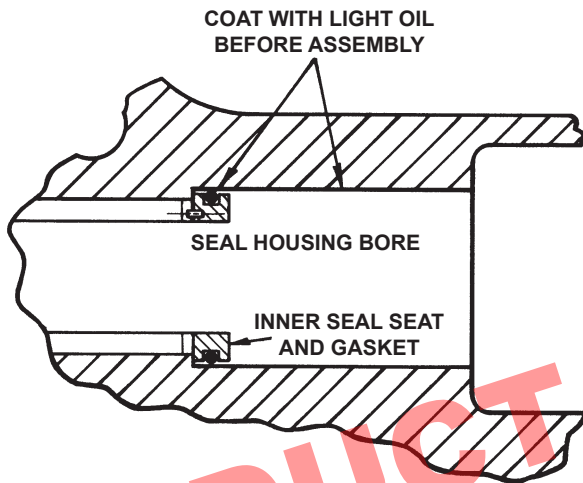

FIGURE 12
3. Coat the outside of the inner seal seat and O-ring gasket and also the inside diameter of the seal housing bore with light Refrigeration Oil (not grease), see figure 12. Press the inner seal seat with O-ring gasket into place in the seal housing bore with your fingers or by putting a piece of cardboard over the face of the seal seat and pressing with a block of wood or squared off piece of pipe. Remove the cardboard. Figure 13 shows how the inner seal seat pin fits into either of the slots in the end of the bracket bushing. Be sure the pin engages one of these slots in the bushing when you have finished pushing the seal seat into the seal housing bore. Check by looking through the bracket bushing from the casing end.